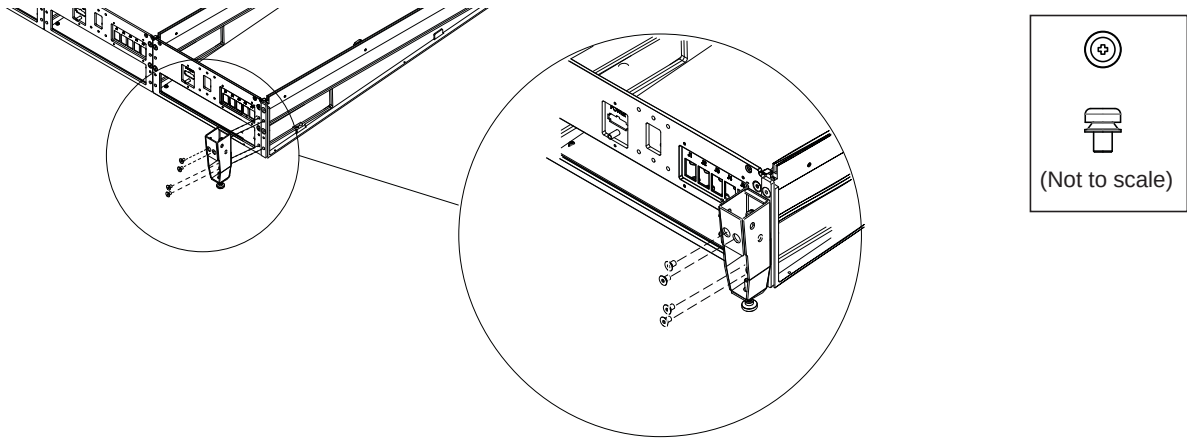

Figure 22. Attaching a Back Foot at one end of the back of the frame
- At the left- and right-most ends of the frame, attach the feet to the Spacer bars and adjacent Back Tie Plates as shown in Figure 22.